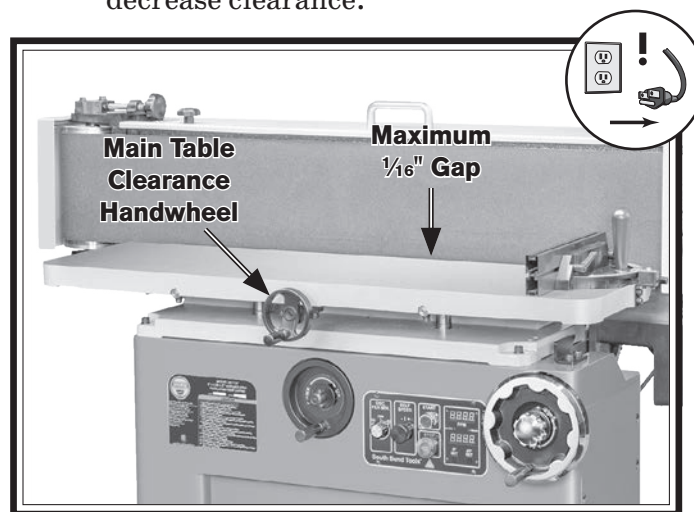

Figure 38. Location of main table clearance handwheel.
2. Adjust main table clearance handwheel (see Figure 38) until there is a gap of no more than $\frac{1}{16}$ " between table and sanding belt.